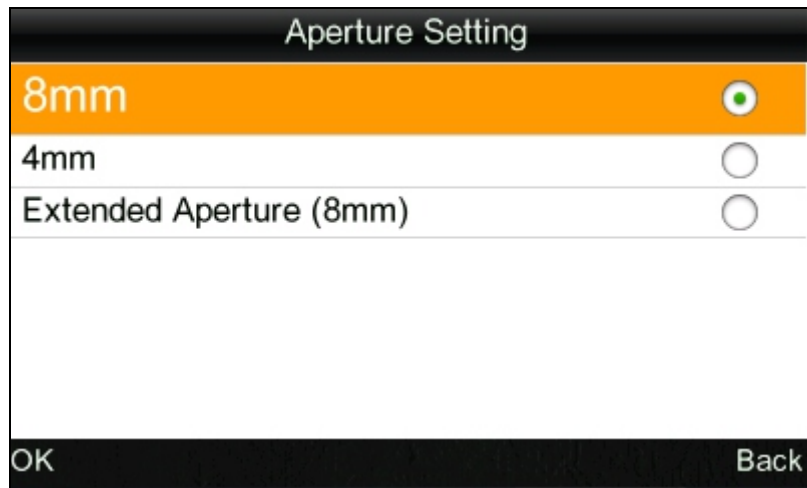

Figure 51 Aperture Setting
- c) Select “Settings” - “Aperture Setting” to enter an interface shown in Figure 51. This interface is used for selecting measuring aperture. After changing the aperture, be sure to select the corresponding aperture in “ Aperture Setting ”, or it will cause the inaccuracy of the measured data. After changing the aperture, you need to re-perform white and black calibration, or it will also cause the inaccuracy of the measured data.